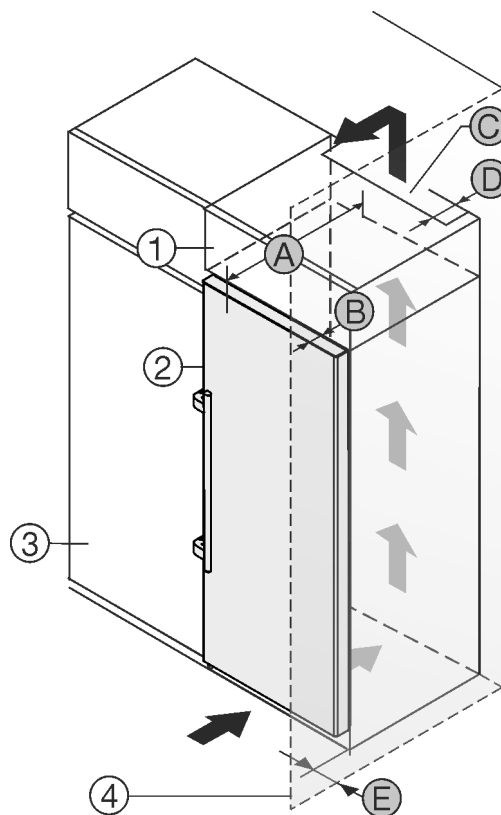

Fig. 1
You can place the appliance directly beside the kitchen cabinet *Fig. 1 (3)*.
There must be a ventilation shaft at the depth *Fig. 1 (D)* of the back of the top cupboard over the entire width of the top cupboard.
The cross section of the ventilation gap *Fig. 1 (C)* must be maintained below the ceiling.
If the appliance is set up with the hinges next to a wall *Fig. 1 (4)*, the distance between the appliance and the wall must be at least 57 mm (2 1/4 in). This is how far the handle protrudes when the door is open.
In order to be able to fully open the door, the appliance must protrude by the depth of the door *Fig. 1 (B)* from the front of the kitchen cabinet. Regardless of the depth of the kitchen cabinets *Fig. 1 (3)* and use of wall spaces, the appliance can protrude further.